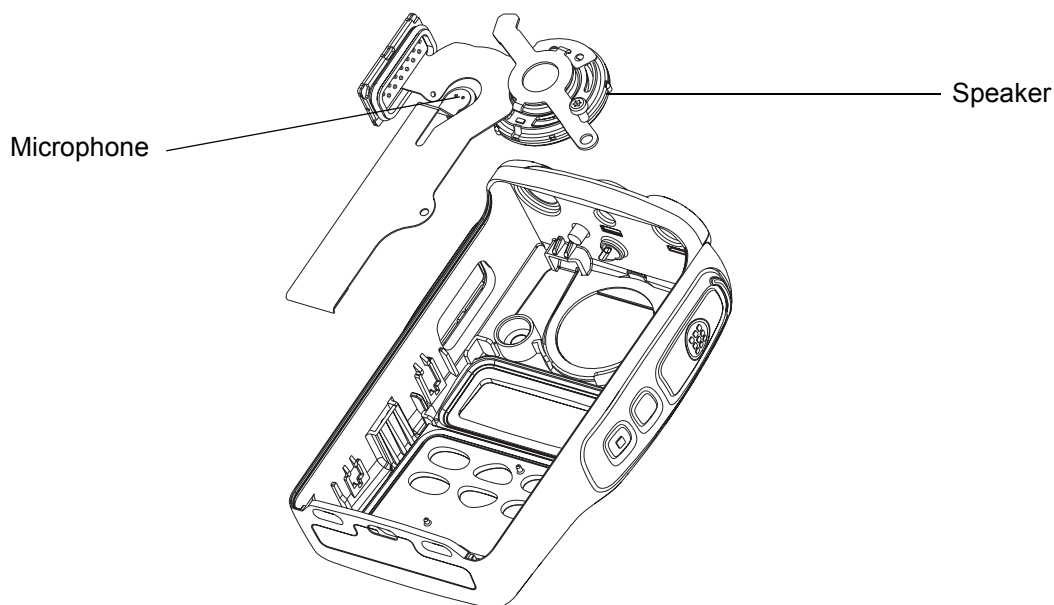

Figure 3-23 Removal Speaker-Microphone Assembly
2. Align the top notch in the speaker at the twelve o'clock position with the tab on the front cover. (See Figure 3-23.) Push down the speaker until the two bottom notches fit into the catches on the housing.